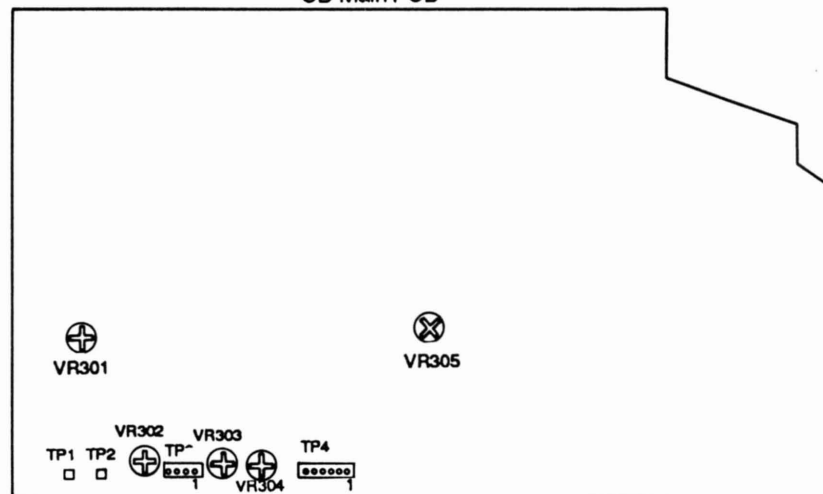

Figure 16
D. Connect a **DC** meter across **CN001** (Tuner PCB, Figure 16), **pin 1** and **pin 2**.
E. Adjust **L006** (Tuner PCB, Figure 16) until the meter indicates **1V ± 0.05V**.
E. Adjust **Bar Antenna L005** (Bar Antenna PCB, Figure 16) for maximum output.
H. Adjust **CT003** (Bar Antenna PCB, Figure 16) for maximum output.
D. Connect a **DC** meter across **TP1** (PLL PCB, Figure 16) and **ground**.
E. Adjust **SFR001** (Tuner PCB, Figure 16) so that the meter indicates a range of approximately **5V** and **0V** by following these steps:
- D. Connect a **DC** meter across **CN001** (Tuner PCB, Figure 16) **pin 1** and **pin 2**.
- E. Adjust **L003** (Tuner PCB, Figure 16) until the meter indicates **1.0V ± 0.05V**.
- D. Connect a **DC** meter across **CN002** (Tuner PCB, Figure 16), **pin 2** and **pin 4**.
- E. Adjust **L007** (Tuner PCB, Figure 16) until the meter indicates **0V**.
- E. Adjust **L001** and **L002** (Tuner PCB, Figure 16) until the maximum amplitude is achieved.
- H. Adjust **CT001** and **CT002** (Tuner PCB, Figure 16) until a maximum amplitude is achieved.
- D. Connect a **DC** meter across **CN002** (Tuner PCB, Figure 16) **pin 2** and **pin 4**.
- F. Adjust **L004**, **L007** and **L008** (Tuner PCB, Figure 16) until the meter indicates **0 ± 20mV** and as low a **T.H.D.** as possible.
- D. Connect a **DC** meter across **TP1** (PLL PCB, Figure 16) and **ground**.
- E. Adjust **SFR003** (Tuner PCB, Figure 16) so that the meter indicates a range of approximately **5V** and **0V** by following these steps:
- D. Connect a frequency counter from **TP5** (Tuner PCB, Figure 16) to **ground**.
- E. Adjust **SFR003** (Tuner PCB, Figure 16) until the frequency counter indicates **19 kHz**.
- E. Adjust **SFR004** (Tuner PCB, Figure 16) until the optimum **R/L channel separation** is attained.
A. Connect a jumper from TP4, pin 1 to TP4, pin 5. Refer to Figures 16 and 17.